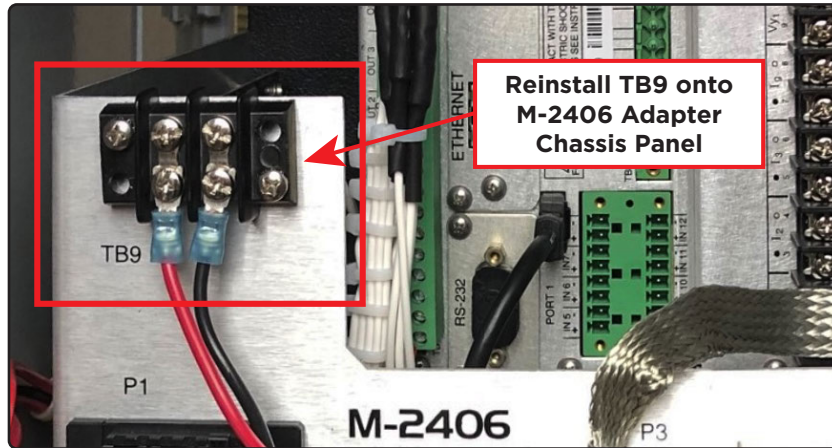

Figure 22 Eaton Cooper Terminal Block 9 Installed onto M-2406 Adapter Chassis (14- / 19-pin Adapter Chassis Shown)
3. Reinstall Terminal Block 9 onto the M-2406 Adapter Chassis, lining up with the two pre-drilled holes on the back of the chassis (Figure 22). Use the screws saved from the removal of TB9 to secure the terminal block.